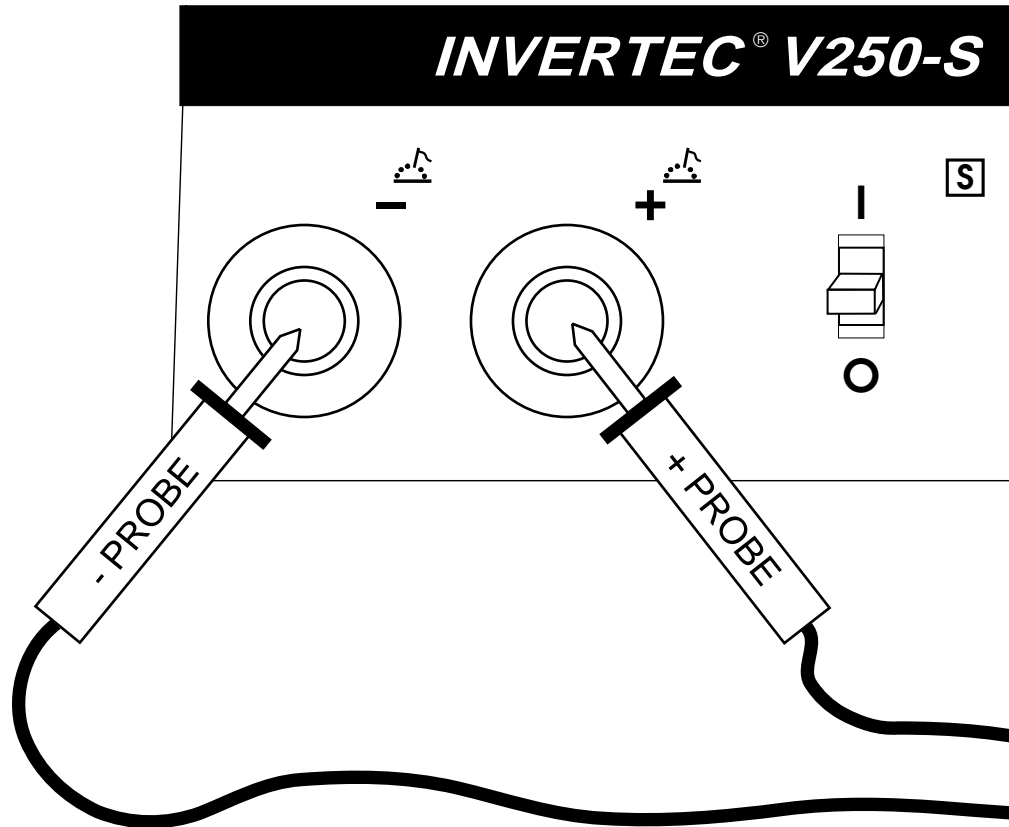

Figure F.5 Meter Probes.
4. Using the analog ohmmeter test for more than 200 ohms resistance between positive and negative output terminals. Positive test lead to the positive terminal; Negative test lead to the negative terminal. See Figure F.5.